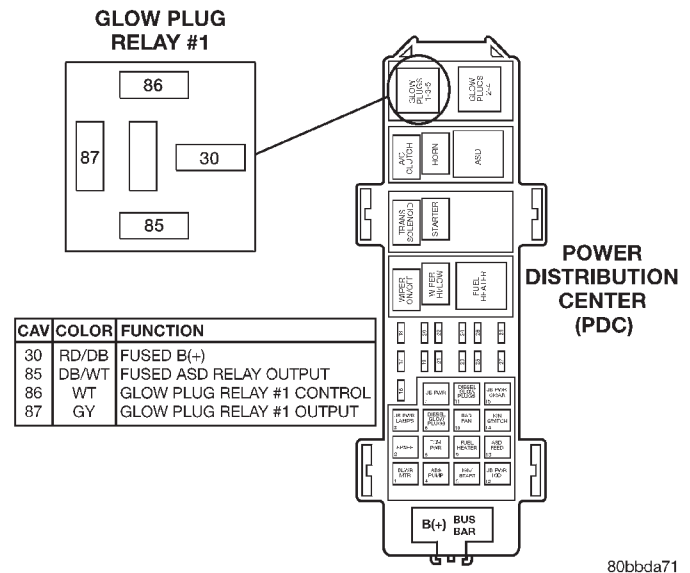
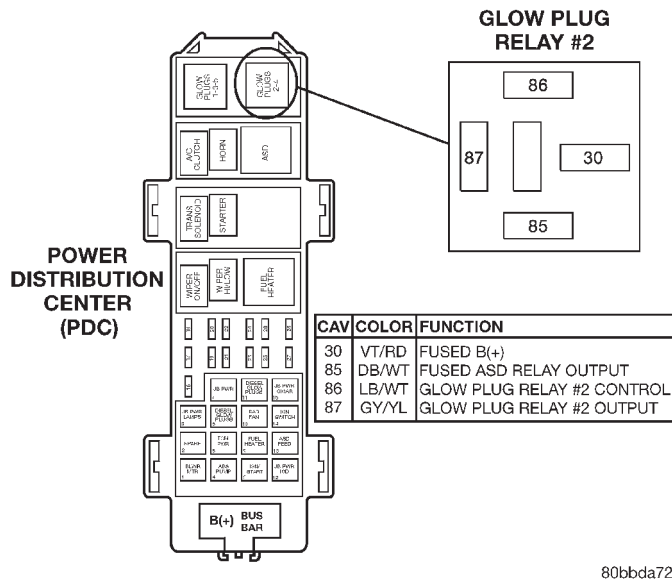

Fig. 10 Glow Plug Relay #1 Location
Fig. 11 Glow Plug Relay #2 Location
- (7) Be sure that the electrical connections at the glow plug relay are tight and not corroded. The glow plug relay is located in the engine compartment on the left-inner fender (Fig. 10) (Fig. 11).